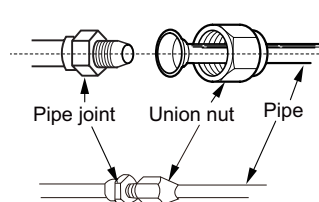

Fig.5
- (1) Aim the pipe joint at the corresponding bellmouth.(As show in Fig.5)
- (2) Pretightening the union nut with hand.
- (3) Adjust the torque force by referring to the following sheet. Place the open-end wrench on the pipe joint and place the torque wrench on the union nut. Tighten the union nut with